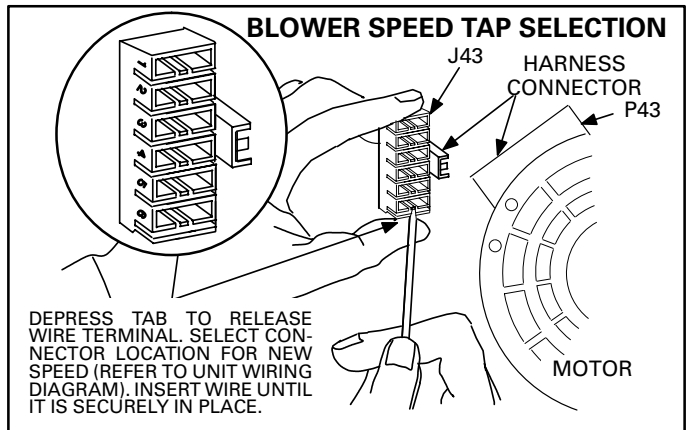

FIGURE 13
- 6- Depress harness connector tab to release wire terminal (J43). Select connector location for new speed (refer to unit wiring diagram). Insert wire terminal until it is securely in place. See figure 13.
- 6- Depress harness connector tab to release wire terminal. Select connector location for new speed (refer to unit wiring diagram). Insert wire terminal until it is securely in place. See figure 13.